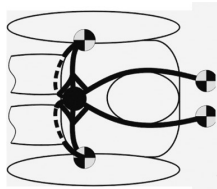

Figure 5
- a. Consists of a 2-inch or 3-inch lap belt, 3-inch shoulder straps (2-inch allowed with HANS), or 2-inch shoulder straps with 3-inch wide professional padding (padding **not** allowed with HANS), and two, approximately 2-inch, leg straps. The buckles for the lap and shoulder straps must be of metal-to-metal, quick-release type at the locking mechanism (such as cam-lock or latch-link). Formula style belts with rear mounted sub straps (Figure 5) are not recommended for use in upright seating positions unless a seventh point is added (Figure 5.A).